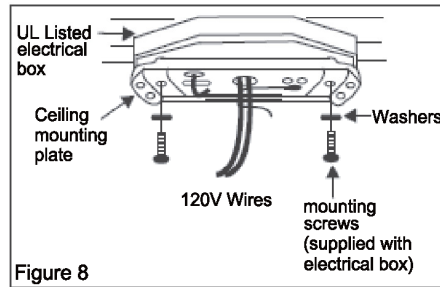

Figure 8
1. Pass the 120-volt supply wires through the center hole in the ceiling mounting plate as shown in Fig. 8.
2. Install the ceiling mounting plate on the electrical box by using the mounting screws provided with the electrical box. Note that the flat side of the mounting plate is toward the electrical box. (Fig. 8)